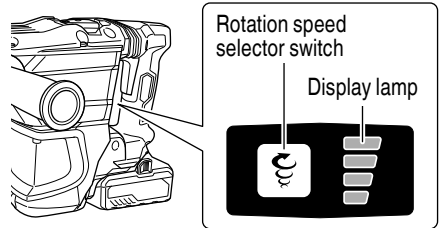

Fig. 17
5. Regulating the number of rotations and hammering (Fig. 17)